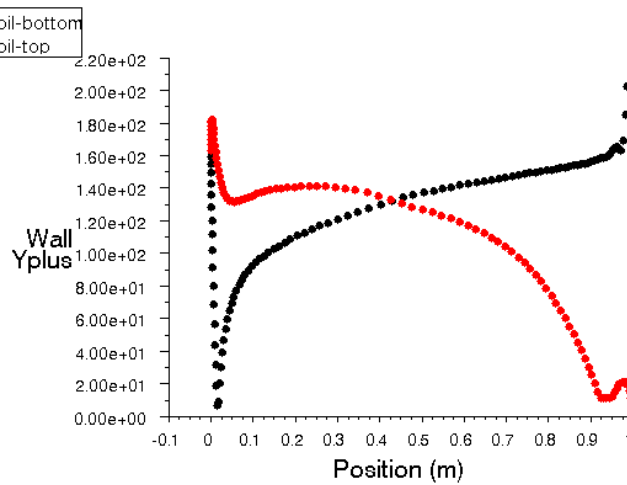

Figure 5.7: Wall Yplus Plot
14. Check the Y^+ values around airfoil (Figure 5.7).